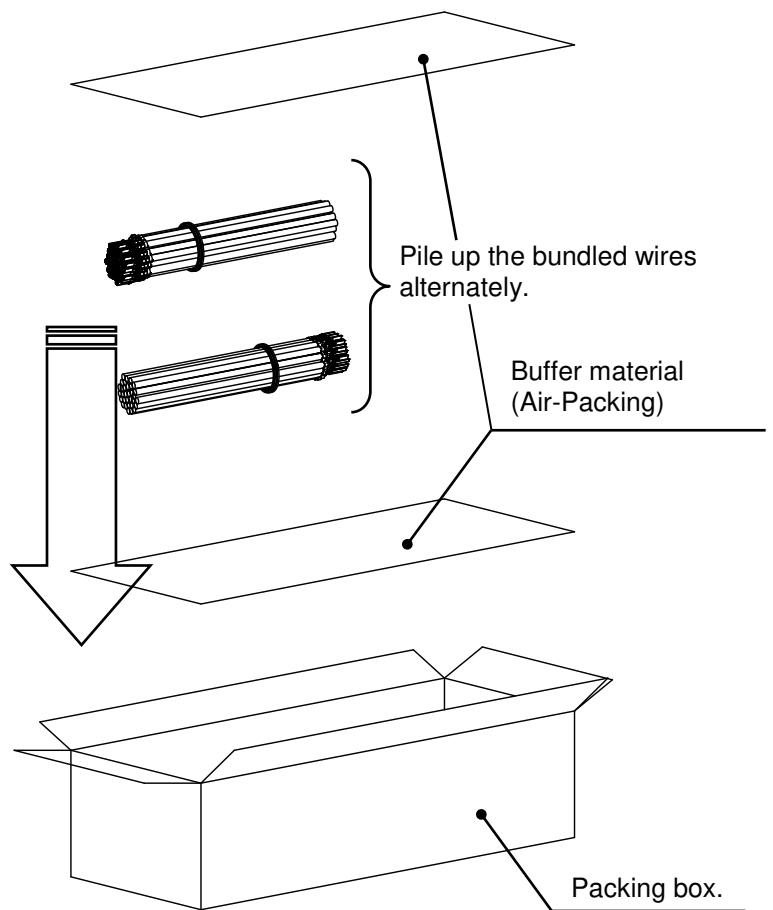

Fig. 5-2
- ※When packing bundled harnesses after processing in package box, in order for force not to be applied to connector for a long period of time by piling up, please put product alternately (cross shape) in a fitting box. (Fig.5-2)
- ※Please lay buffer material on the bottom and top of the package box. In order to avoid applying force to connector for a long period of time by stacking the wires, please lay buffer material. (Fig.5-2)